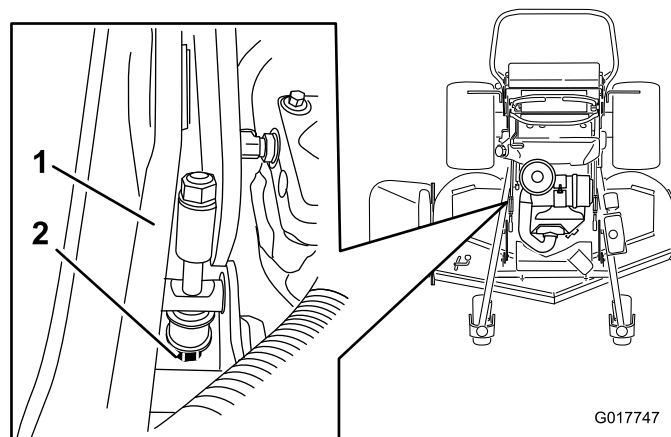

Figure 98
5. If it does not measure correctly, locate the height-of-cut rod on the right side of the machine (Figure 98).
6. Adjust the adjustment bolt until the blade tips match 7.6 cm (3 inches) as shown in Figure 98.